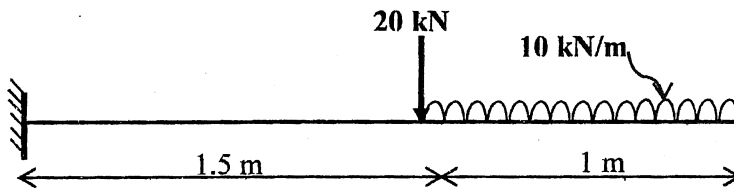

Fig.1
1. A cantilever beam is subjected to the loads as shown in Fig.1. Find the deflection and slope at the point of action of concentrated load. Also find the maximum deflection and maximum slope. Adopt $E = 200 \text{ kN/mm}^2$ and $I = 25 \times 10^6 \text{ mm}^4$.